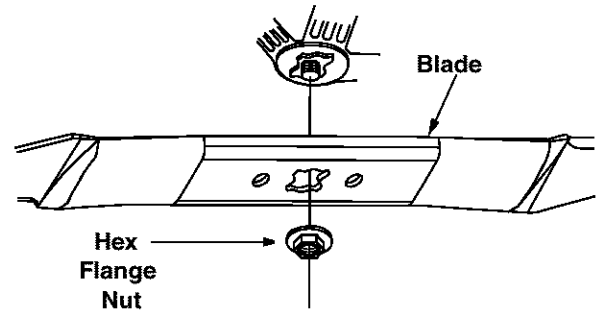

Figure 29
- Remove the hex flange nut that holds the blade to the blade spindle. See Figure 29.